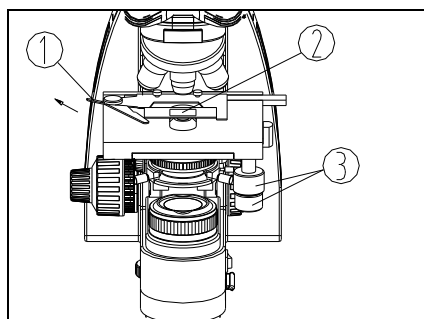

Fig. 10
1. Push the wrench ① of the specimen holder backwards.
2. Loosen the wrench ①, and clamp the slide ② by the clips while the cover glass faces up (see Fig. 10).
3. Rotate the X and Y-axis knob ③. Move the specimen to the center (alignment with the center of the objective).